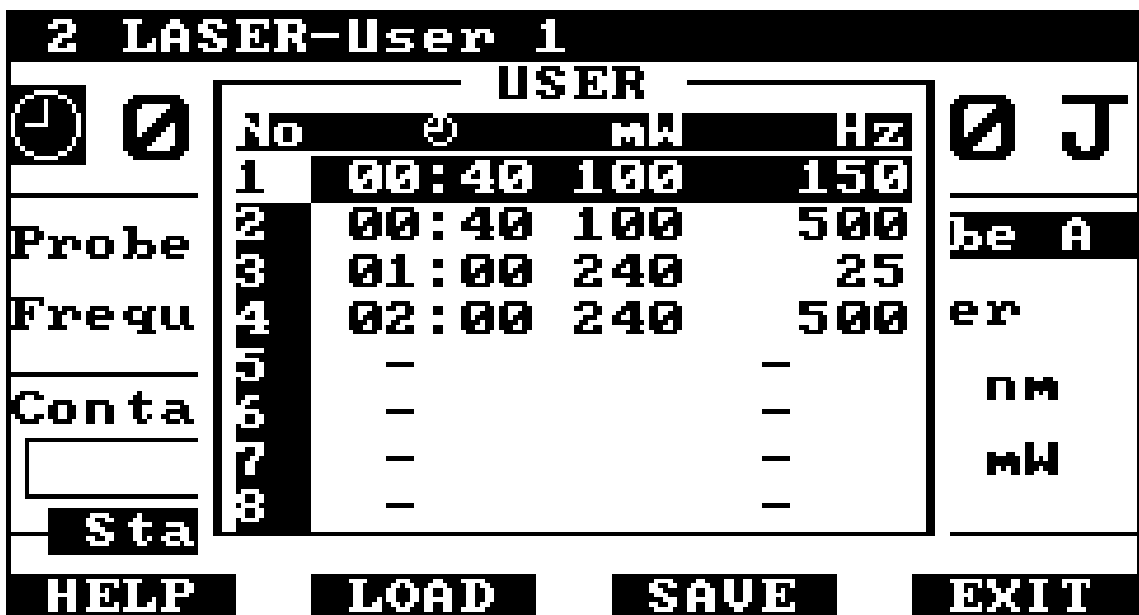

Figure 31 - User Program Display
17. **F2 - USER:** In order to save time setting up the Laser Module up to 16 individual set-ups can be saved as "User Defined Programs". To save the current set-up as a user defined program, press F2-USER from the main Set-Up display. The system will recall previously saved programs and display them as in figure 31.